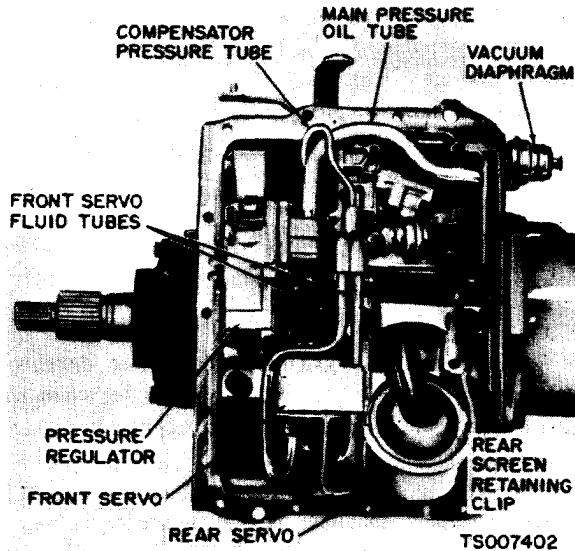

Figure 7-14. Control Valve Body Installed.
(38) Locate the servo on the case, and install the attaching bolts. Tighten the attaching bolts only 2 or 3 threads.
(39) Install the servo tubes.
(40) Position the servo anchor strut, and rotate the rear band to engage the strut.
(41) Position the servo actuating lever strut with a finger, and then install the servo and attaching bolts. Move the servo (with reasonable force) toward the centerline of the case, against the attaching bolts. While holding the servo in this position, torque the attaching bolts to 30 - 35 ft/lb.
(42) Install the pressure regulator body and attaching bolts, and torque the bolts to 17 - 22 ft/lb.
(43) Install the control and converter valve guides and springs. Install the spring retainer.
(44) Install the control valve assembly, carefully aligning the servo tubes with the control valve. Align the inner downshift lever between the stop and the downshift valve. Shift the manual lever to the 1 position. Align the manual valve with the actuating pin on the manual detent lever. Do not tighten the attaching bolts.
(45) Install the main pressure oil tube. Be sure to install the end of the tube that connects to the pressure regulator assembly first. Then, install the other end of the tube into the main control assembly by tapping it gently with a soft hammer.
(46) Install the small control pressure compensator tube in the valve body and regulator.
(47) Move the control valve body toward the center of the case until the clearance is less than 0.050 inch between the manual valve and the actuating pin on the manual detent lever.
(48) Torque the attaching bolts to 8 - 10 ft/lb. Be sure that the rear fluid screen retaining clip is installed under the valve body as shown in figure 7-14.
(1) Drain the fluid from the transmission by loosening the pan attaching bolts starting at the rear of the pan and working toward the front. When most of the fluid has drained from the pan, remove the remainder of the attaching bolts.
(2) Remove the pan and gasket. Discard the gasket. If the same fluid is to be used again in the transmission, filter the fluid through a 100-mesh screen as it drains from the transmission. Re-use the fluid only if it is in good condition.
(3) Remove the fluid screen retaining clip and the screen.
(4) Disconnect the hoses from the vacuum diaphragm unit. Remove the diaphragm unit using Snap-On Tool S8696-A. Do not use any tools on the diaphragm housing, such as pliers, pipe wrenches, etc. Do not allow solvents to enter the diaphragm unit. Remove the pushrod.
(5) Remove the small compensator pressure tube (fig. 7-14).
(6) Remove the main pressure oil tube first, by gently prying up the end that connects to the main control valve assembly, then, remove the other end of the tube from the pressure regulator. Be sure to remove the tube in this manner. Failure to do so could kink or bend the tube causing excessive transmission internal leakage.
(7) Loosen the front servo attaching bolts three turns.
(8) Remove the three control valve body attaching bolts, and lower the valve body while pulling it off the front servo tube. Be careful not to damage the valve body or the tubes.
(1) Before installing the control valve body, check for a bent manual valve by rolling it on a flat surface,
(2) Install the control valve body by aligning the front servo tubes with the, holes in the valve body. Shift the manual lever to the 1 detent, and place the inner downshift lever between the downshift lever stop and the downshift valve. The manual valve must engage the actuating pin in the manual detent lever.
(3) Install but do not tighten the control valve body attaching bolts.
(4) Move the control valve body toward the center of the case until the clearance is less than 0,050 inch, between the manual valve and the actuating pin on the manual detent lever.
(5) Torque the attaching bolts to specification. Be sure that the rear fluid screen retaining clip is installed under the valve body as shown in figure 7-14.
(6) Install the main pressure oil tube. Be sure to install the end of the tube that connects to the pressure regulator first. Then, install the other end of the tube into the main control valve